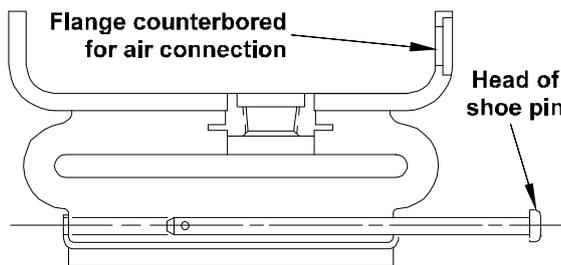

Figure 12
- 4.5.3 Place the new friction shoe assemblies in position. Insert the shoe pins with the heads located on the mounting flange and/or air connection side of the element, as in Figure 12.